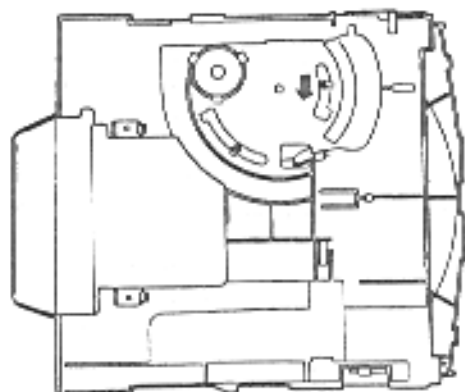

Fig. 3-7
1) If the TRAY BLOCK is in the "in" position, slide the protruding part of the GEAR HOLDER PART in the direction of the arrow and pull out the TRAY BLOCK slowly (refer to Fig. 3-7).